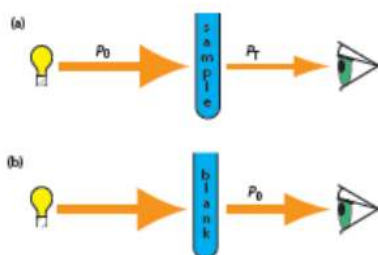

FIGURE 1
Absorbance is a calculated value based on what we can actually measure – the intensity or power of light. **Figure 1** shows how the power of light detected changes as the sample absorbs some portion of light.
13. How would you express the amount of light transmitted as a percent of the maximum possible light transmitted, using the variables from **Figure 1**?